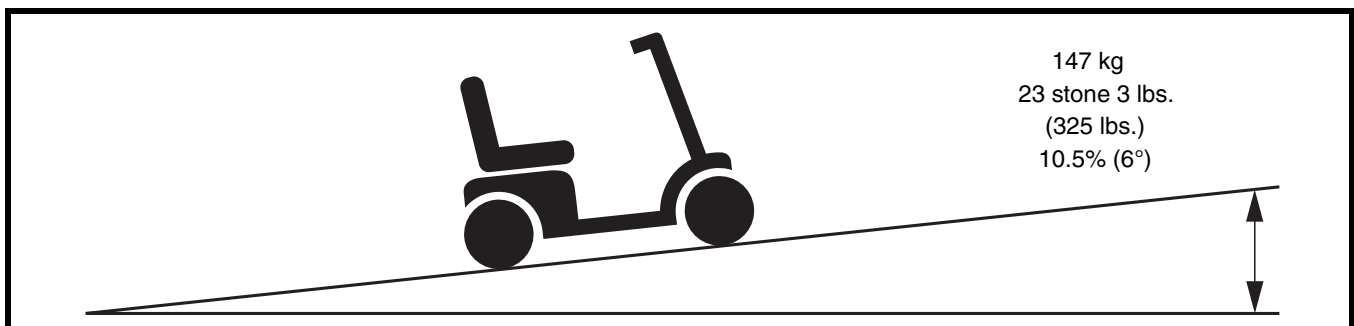

Figure 1. Maximum Recommended Incline Angle
**WARNING! Even though your Travel Scooter is capable of climbing slopes greater than those illustrated in figure 1, do not, under any circumstances, exceed the incline guidelines or any other specifications presented in this manual. Doing so could cause instability in your Travel Scooter, resulting in personal injury and/or damage to your Travel Scooter.**
Handicap public access ramps are not subject to government regulation in all countries and therefore do not necessarily share the same standard percent of slope. Other inclines may be natural or, if man-made, not designed specifically for Travel Scooters. **Figure 1** illustrates your Travel Scooter's stability and its ability to climb grades under various weight loads and under controlled testing conditions.
**WARNING! Any attempt to climb or descend a slope steeper than what is shown in figure 1 may put your Travel Scooter in an unstable position and cause it to tip.**